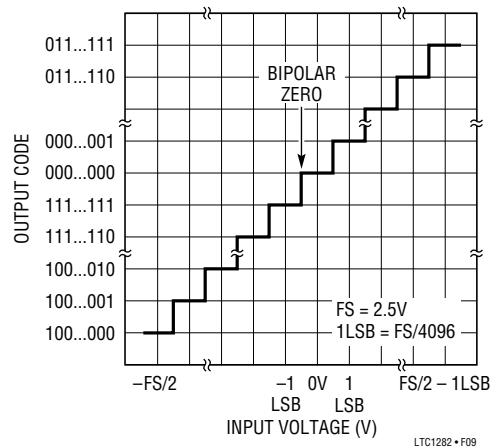

Figure 9. LTC1282 Bipolar Transfer Characteristic
0.61mV. Figure 9 shows the input/output transfer characteristics for the LTC1282 in bipolar operation. The full scale for LTC1282 in bipolar mode is still 2.5V and  $1LSB = 0.61mV$ .